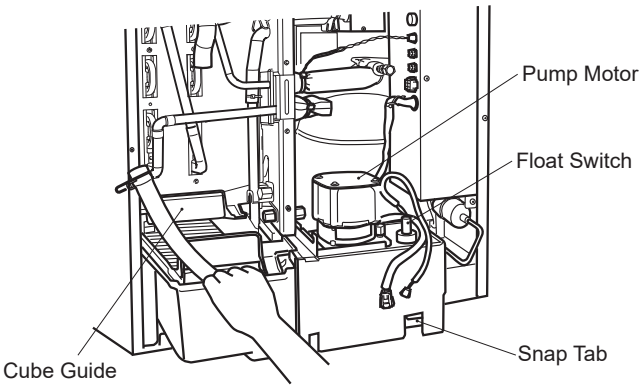

Fig. 4
5) Pull out the water tank, cube guide, pump motor bracket, pump motor and float switch together. See Fig. 4.